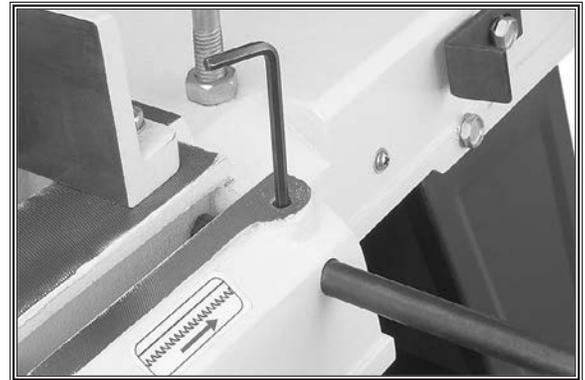

Figure 15. Installing the work stop shaft.
19. Install work stop shaft into side of bandsaw, then lock it in place by tightening the set screw, as shown in **Figure 15**.